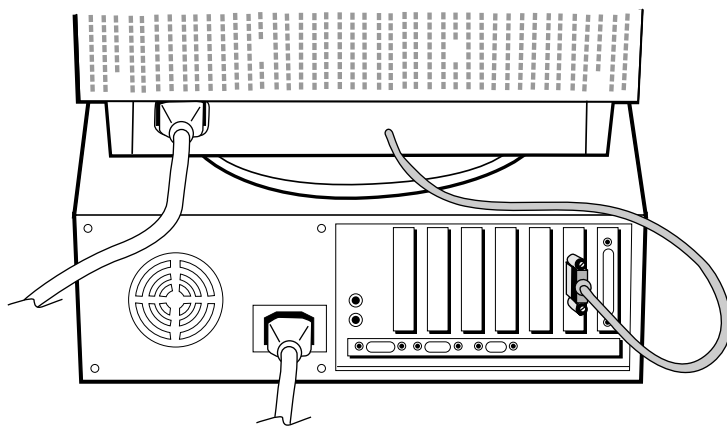

Figure A.1
3. For the PC: Connect the 15-pin mini D-SUB of the captive signal cable to the connector of the display card in your system (Figure A.1). Tighten all screws.